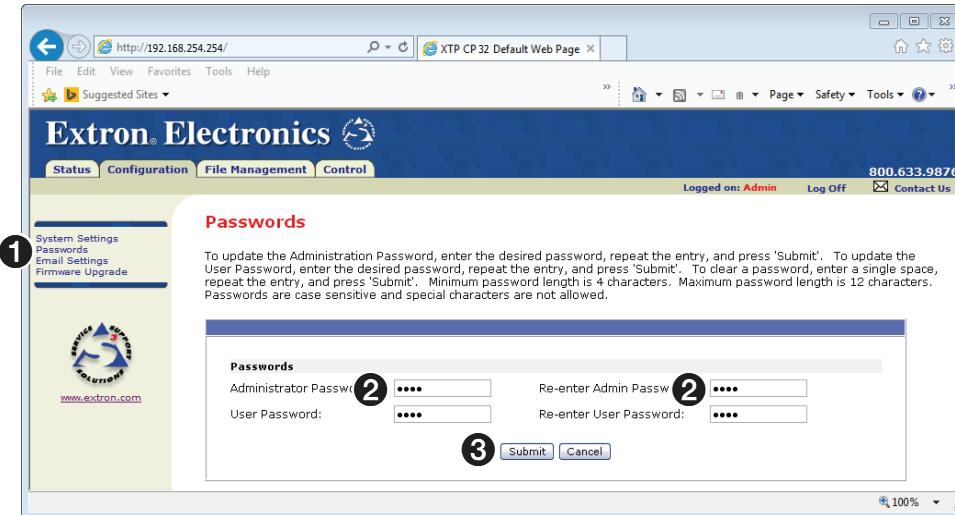

Figure 31. Passwords Page
Access the Passwords page (see figure 31) by clicking the **Passwords** link (**1**) on the left of the System Settings, Email Settings, or Firmware Upgrade page.
The fields on the **Passwords** page are for entering and verifying administrator and user passwords. Passwords are case sensitive and are limited to as many as 12 upper-case and lower-case alphanumeric characters. Each password must be entered twice; once in the **Password** field and then again in the **Re-enter Password** field (see figure 31, **2**). Characters in these fields are masked by asterisks (*****). If you do not want to password protect an access level, leave the **Password** field and the **Re-enter Password** field blank. After entering the password in both fields, click the **Submit** button (**3**).
1. Replace any existing password by entering a single space character in the **Password** and **Re-enter Password** fields (see figure 31, **2**).